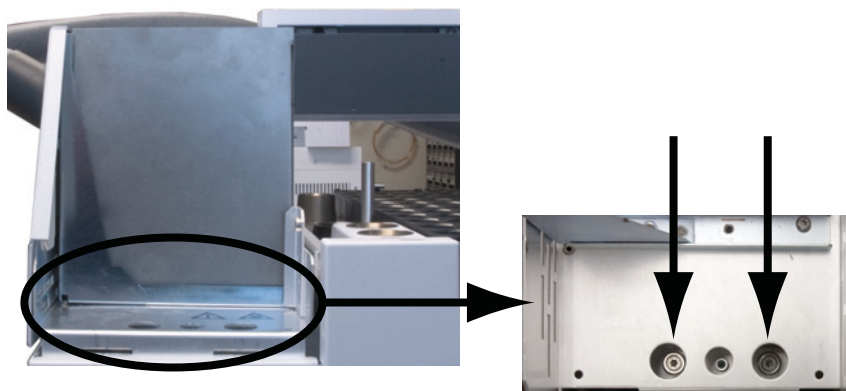

Figure 6 Locate and loosen the two front thumbscrews
- 6 Completely loosen the two T-20 Torx captive thumbscrews that are inset at the front of the pneumatics assembly (Figure 6).